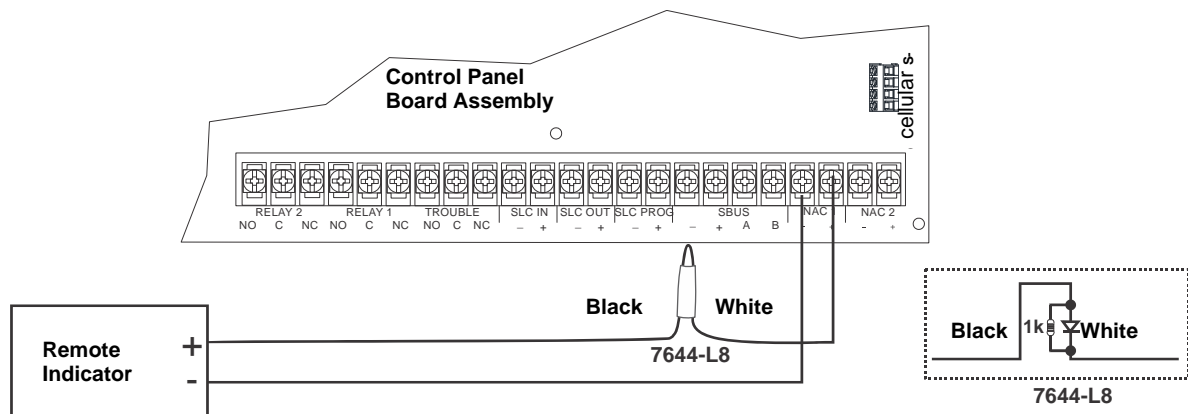

Figure 4.52 Polarity Reversal Connection Using the 7644-L8
1. Wire the 7644-L8 to the control panel as shown in Figure 4.52.